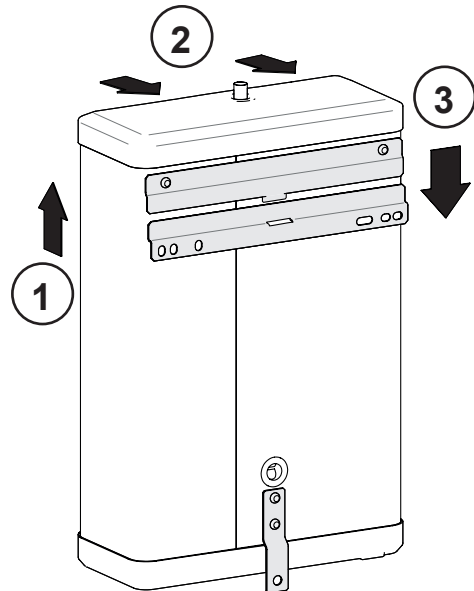

Figure 12: Bracket lifting procedure
- ▶ Refer to table 1, page 6 for the weight of the water heater empty, using an appropriate lifting method lift the water heater up and position the bottom edge of the water heater bracket over the top edge of the wall bracket, position the unit towards the wall and then lower, see figure 12.